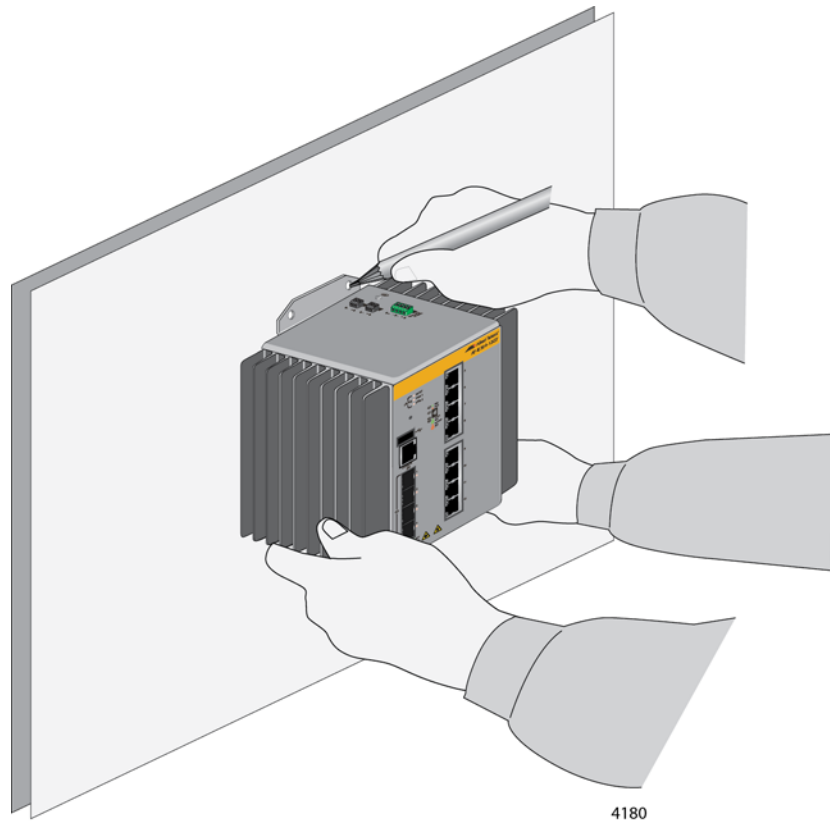

Figure 23. Marking the Locations of the Bracket Holes on a Concrete Wall
3. Have a person hold the switch on the concrete wall at the selected location for the device while you use a pencil or pen to mark the wall with the locations of the four screw holes in the two wall brackets. Refer to Figure 23 on page 72.
- ☐ The switch must be oriented as shown in Figure 23 on page 72. You may not install the switch horizontally or upside-down.